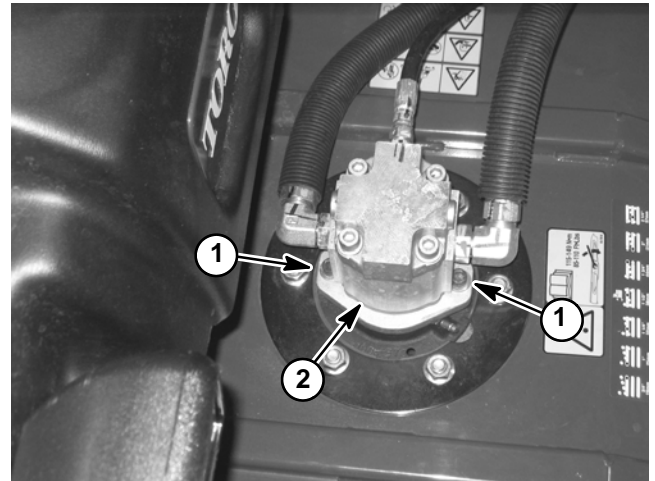

Figure 4
2. Remove two (2) socket head screws and flat washers that secure hydraulic motor to the cutting deck (Fig. 4).